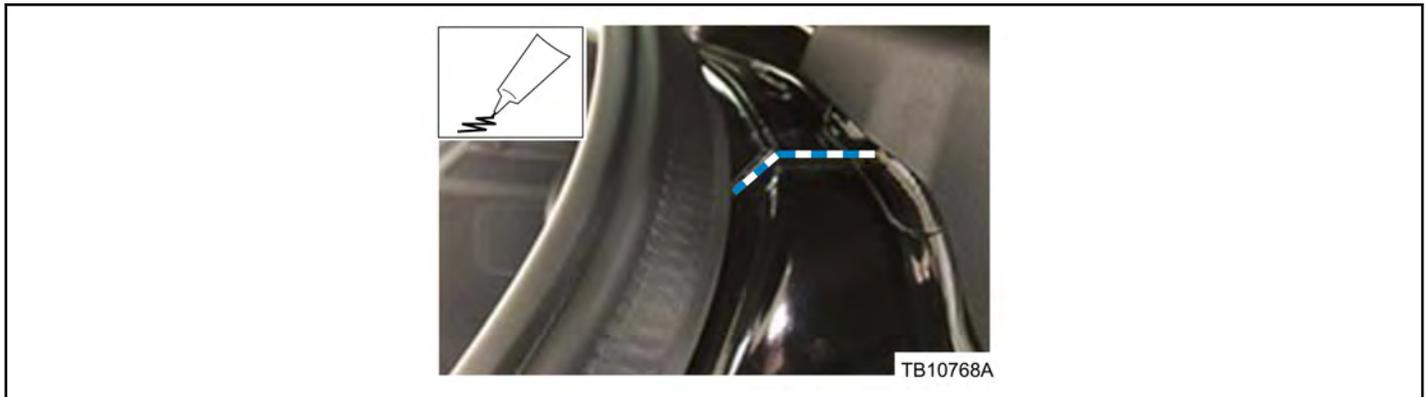

Figure 5 - Article 15-0150
12. Apply 3M™ Flexiclear™ Body Seam Sealer or equivalent to the D-pillar header joint seams and rear roof ditches. (Figures 5 and 6)